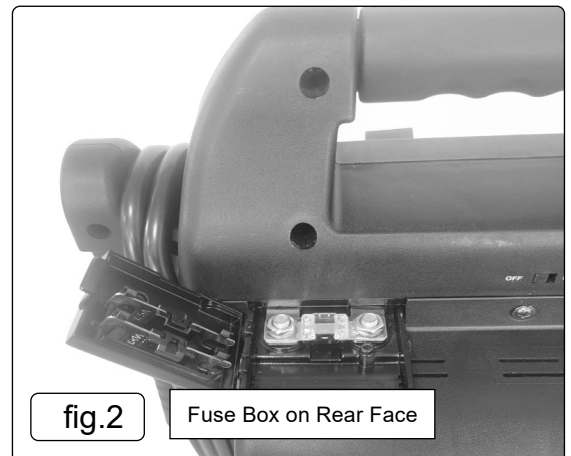

fig.2
- 5.1.1. **Short circuit protection:** In the event of accidentally touching the Positive and Negative clamps together, the fusible link (fig.2) will be blown which will shut off output power thereby preventing a dangerous overload situation.
- 5.1.2. **Reverse Polarity Protection:** If the Roadstart is accidentally connected in the reverse polarity when jump starting, the fusible link (fig.2) will be blown. Power will not output when the fusible link is blown, simply replace the broken fusible link with one of the spares (see Section 5.1.6) and correct the polarity of the connection before attempting to use again.
- 5.1.3. **24V battery connection protection (when switched to 12V):** In the event of accidental connection to a 24V battery system, the fusible link (fig.2) will be blown. Power will not output when the fusible link is blown, simply replace the broken fusible link with one of the spares before attempting to use again. Even though this protection will protect the Roadstart from catastrophic failure, extreme care should be taken by the user to correctly identify the type of battery to be jump started and the operating voltage of the system.
- 5.1.4. **Over load and over temperature protection:** When using the clamps to output power, if the load too big or the use time is too long, the fusible link (fig.2) will be blown. Power will not output when the fusible link is blown, simply replace the broken fusible link with one of the spares (see Section 5.1.6) before attempting to use again.
- NOTE:** To change a blown fuse, switch the unit off and allow 5 minutes to cool. Remove clamps from the battery, unplug the unit from the power supply and unscrew the cover (fig.2). Remove the hexagonal nuts and lift out the fuse ensuring it is not hot.